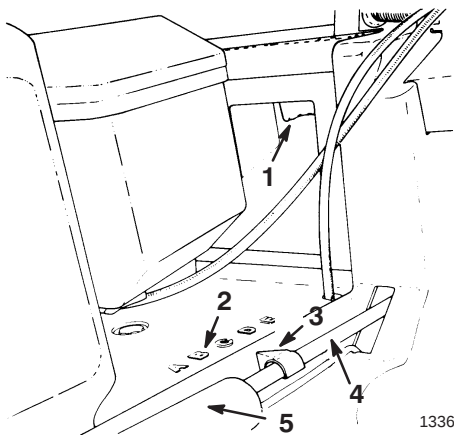

Figure 4
The following procedure replaces step 3, Figure 4 and the note in the “Setting Height of Cut Section” in your operating instruction sheet, Form No. 3320-832 EN. We suggest you keep this material with your Operator’s Manual so that both may be referred to for instructions concerning safe operation and proper maintenance procedures.
3. Use one or two fingers to squeeze the height-of-cut adjustment lever (Fig. 4).